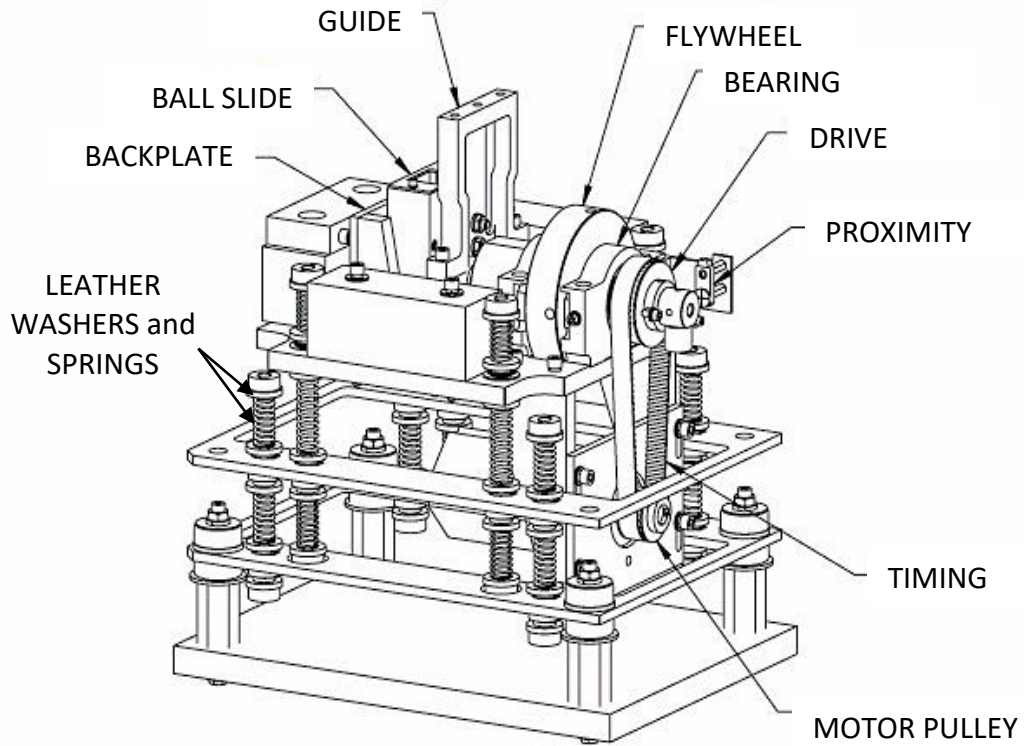

Figure 12 – Preventative Maintenance Diagram
- ✓ Annually take the system offline; remove the side panels of HG-800 Geno/Grinder. Inspect the internal components for wear and loose hardware. (Figure 12)
Remove the side panels of HG-800 Geno/Grinder. Inspect the internal components for wear and loose hardware, as shown in Figure 12.